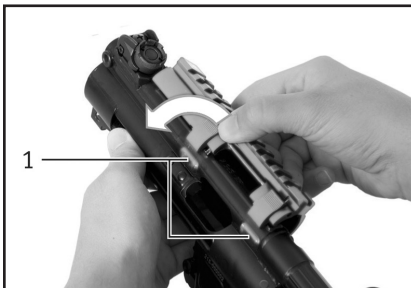

Fig. 43 – Install Picatinny rail scope mount
1. Place scope mount against receiver (Fig. 43).
2. Depress both scope mount clamps simultaneously and pivot the scope mount onto receiver until the clamps on the SP5K's mounting points click into place (Fig. 43).